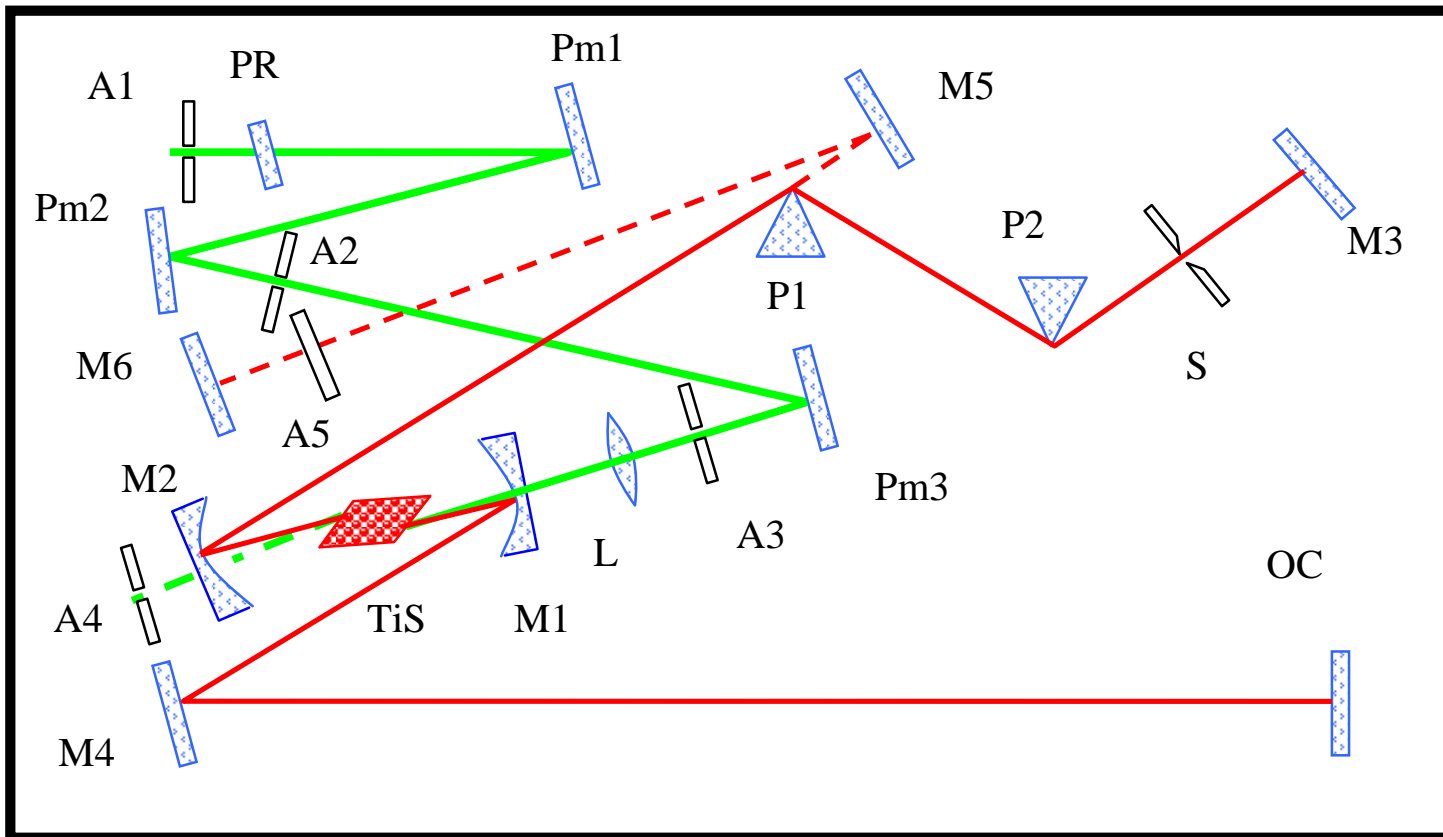

Figure 2. Basic Layout of Trestles-50.
Del Mar Photonics modeled, analyzed and optimized the cavity design for optimum performance in minimal space. The result was a five mirror folded cavity (Figures 2 and 3). This scheme incorporates 5-mirror cavity (M1, M2, M3, M4, OC), Ti:sapphire crystal (TiS), lens for focusing of pump radiation (F), two prisms (P1 and P2) and slit (S).
The scheme of Trestles-50 depicted in Figures 2 and 3 consists of the following optical elements for the basic configuration:
***Our laser is a flexible system which gives you a possibility to change laser cavity on your own will. You can improve your laser according to recent and future achievements in the field making only minor changes of optical and mechanical components. These instructions have been written for modified model where optical scheme incorporating 5 -mirror cavity in z-configuration (Figure 2) where slit(S) and P2 translation stage are combined in one module.***